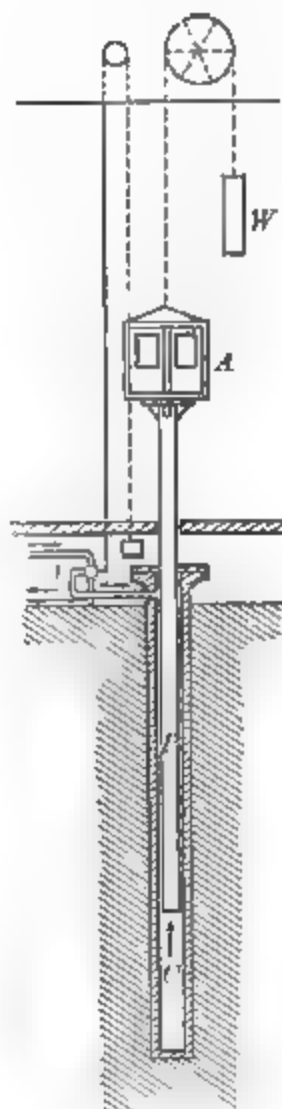

FIG. 49. — Hydraulic elevator.
55. Hydraulic elevators. Pascal's principle is also used in hydraulic elevators, which are commonly employed where heavy machinery is to be lifted. A simple form is shown in figure 49. At the bottom of the elevator well is a pit as deep as the building is high. In the pit is a cylinder (*C*) and in this cylinder is a plunger (*P*), to the top of which the elevator cage (*A*) is firmly fastened. When water under pressure (often simply the pressure of the water mains) is admitted through the valve (*v*) into the cylinder, the plunger rises and forces up the elevator. The weight of the elevator is partly counter-